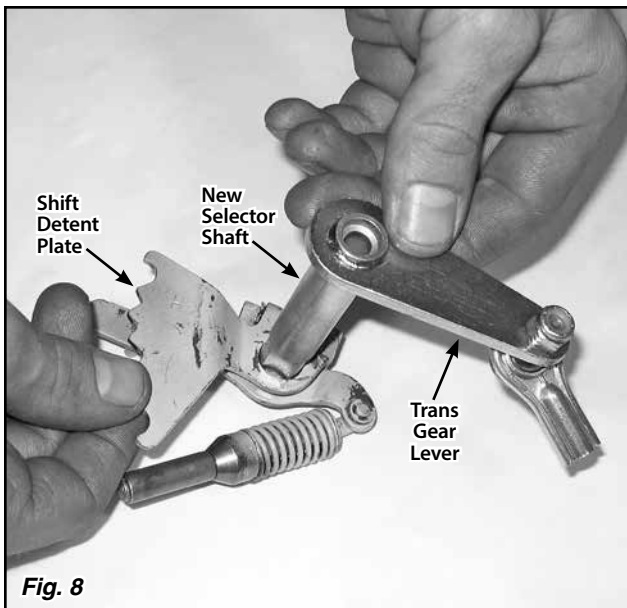

Fig. 8
**Step 6:** Remove the twist tie and o-rings from the new selector shaft and set the o-rings aside. Check the fit of the detent plate to the new selector shaft. **Fig. 8** The original selector shaft had a small section of splines, and the new selector shaft has a flat machined in it instead.